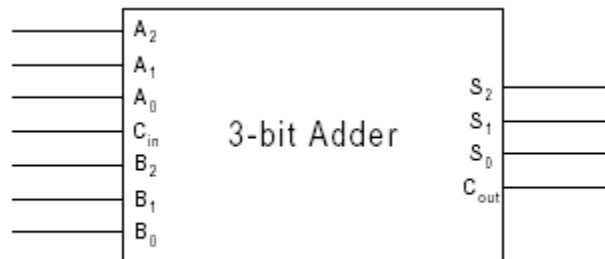

Fig. 3.4: 3-bit adder block
1. How would you make a 6-bit ripple carry adder using **only** 3-bit adder blocks like the one in Figure 3.4? (Do not use individual full adders as building blocks.) Draw the schematic.